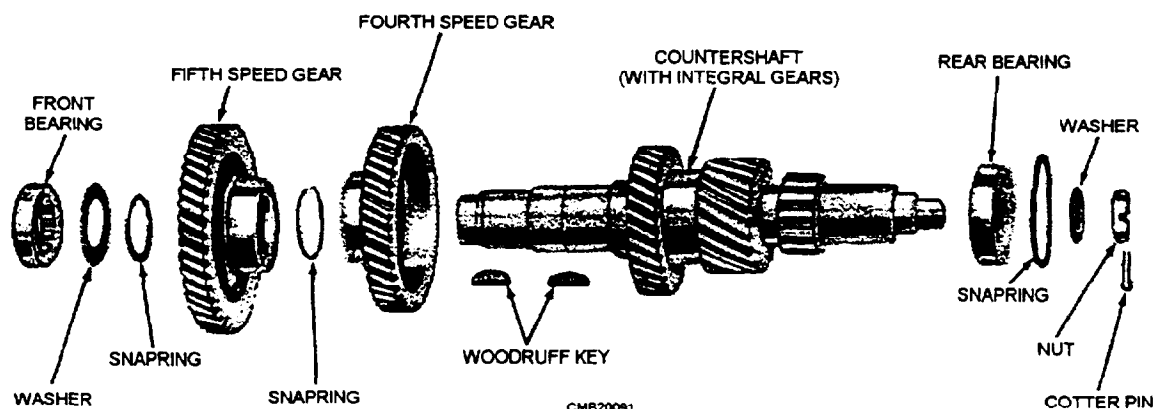

Figure 4-14.—Transmission countershaft assembly—exploded view.
**COUNTERSHAFT.**—The countershaft, also known as the *cluster gear shaft*, holds the countershaft gear into mesh with the input shaft gear and other gears in the transmission (fig. 4-14). It is located slightly below and to one side of the clutch shaft. The countershaft does not turn in the case. It is locked in place by either a steel pin, force fit, or locknuts.